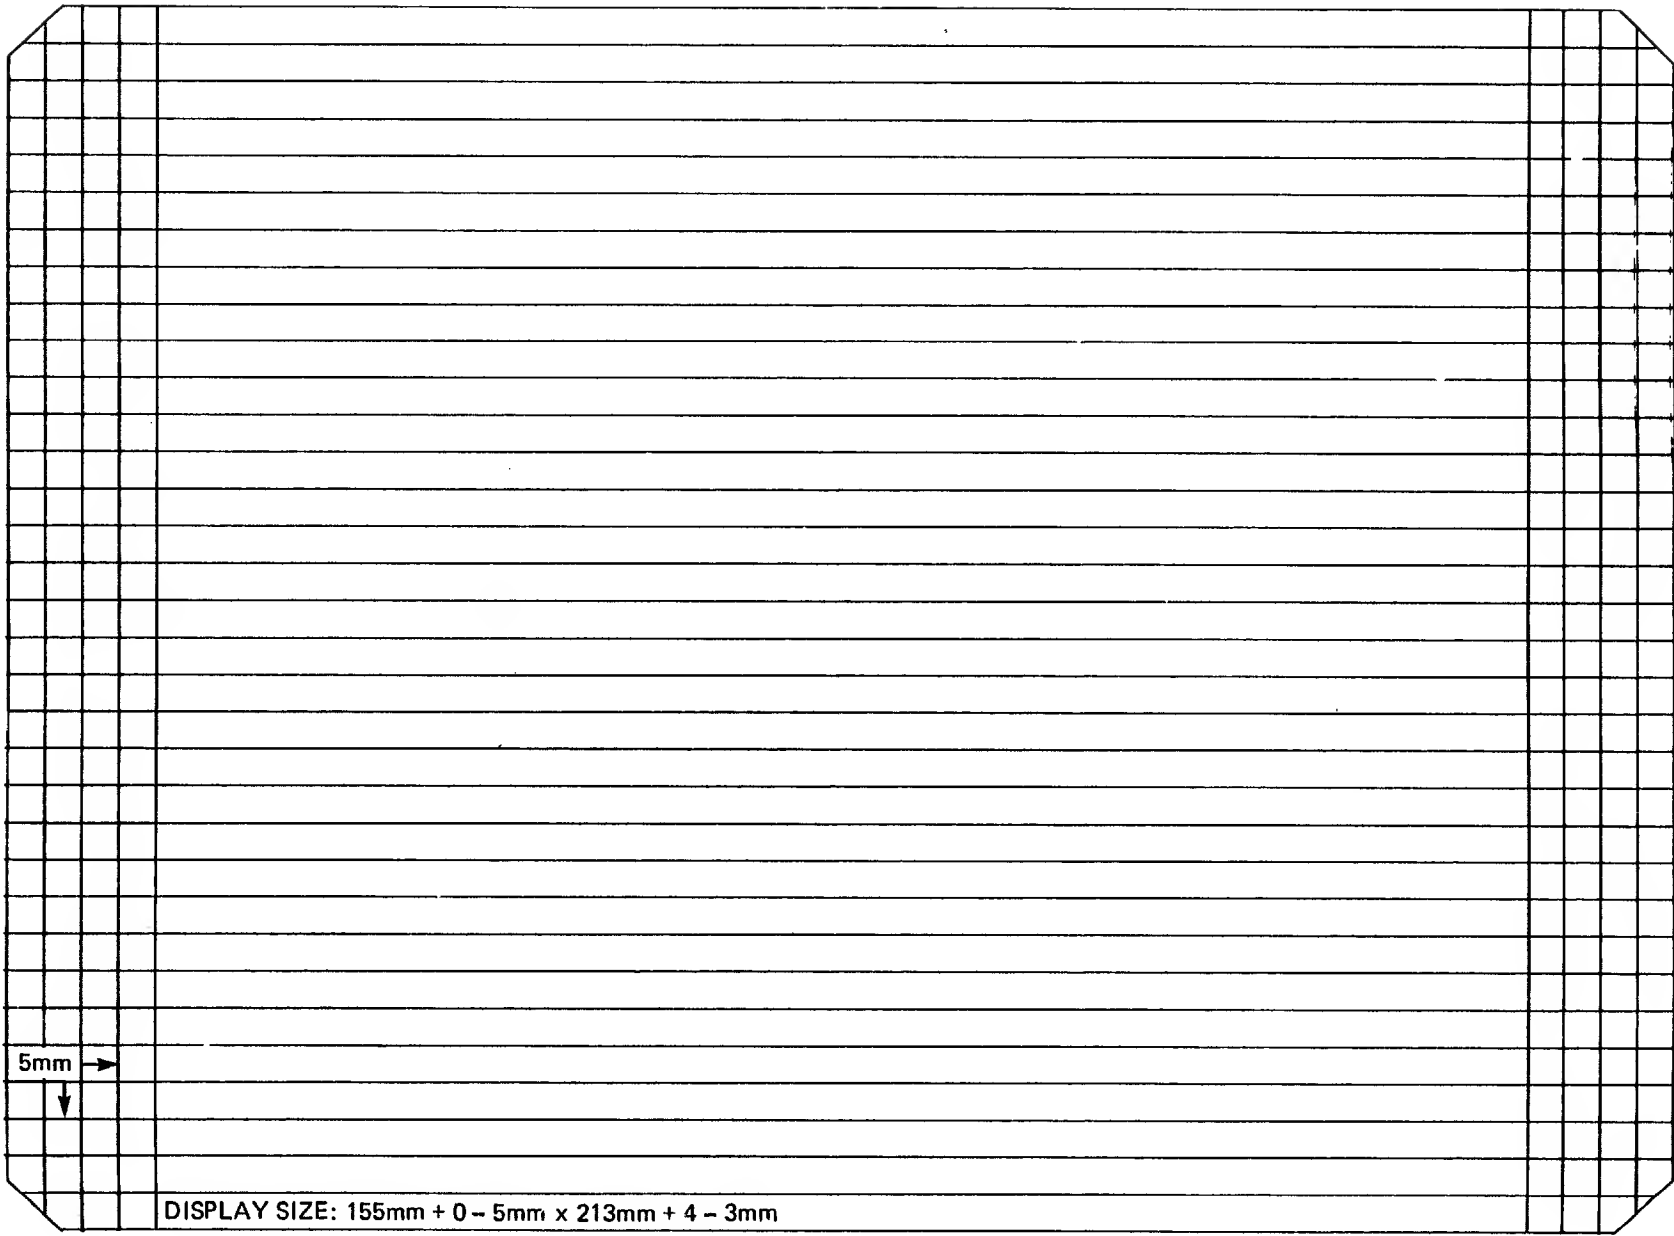

Figure 3-1a. QVT Alignment Tools Set (Display Template, Q.P.N. 84841-01)
- . Display Template (refer to Figure 3-1a, Q.P.N. 84841-01),